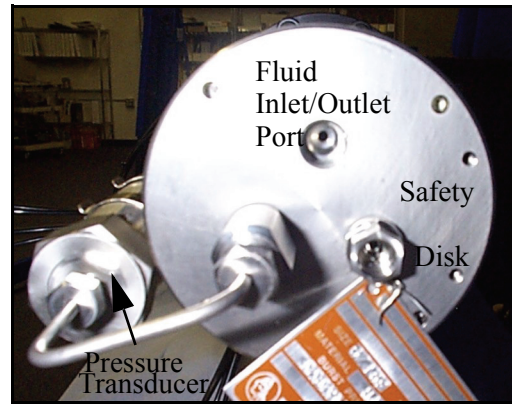

Figure 2-20
2. Install the tubing from the center port of the valve into the fluid inlet/outlet port with the tube that is attached to the valve. The valve will extend out from the end of the cylinder barrel. Refer to Figure 2-20. Repeat for each pump cylinder in your system.